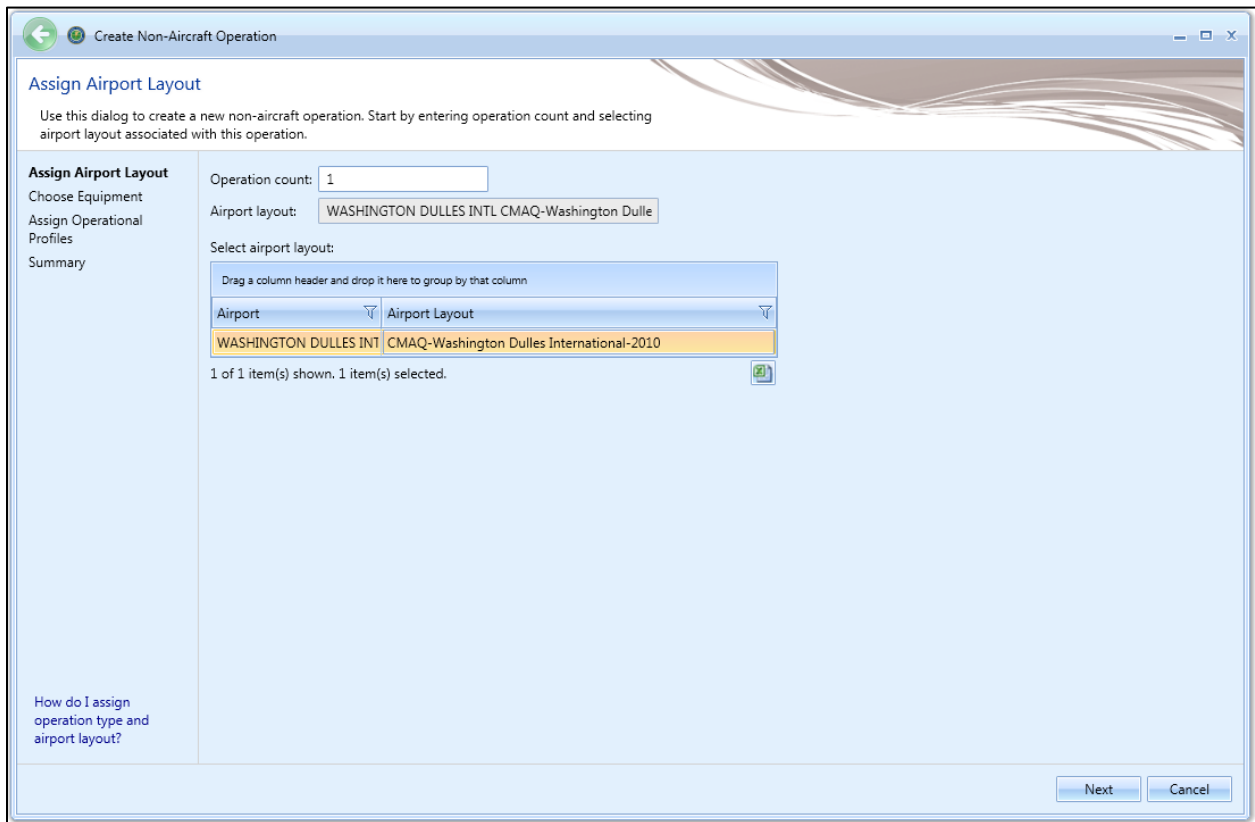

Figure 6-15 Create Non-Aircraft Operation – Assign Airport Layout
2. In the *Non-Aircraft Actions* ribbon group, click *New* to open the *Create Non-Aircraft Operation* wizard (Figure 6-15).
The airport layout is assigned in this step (Figure 6-15).